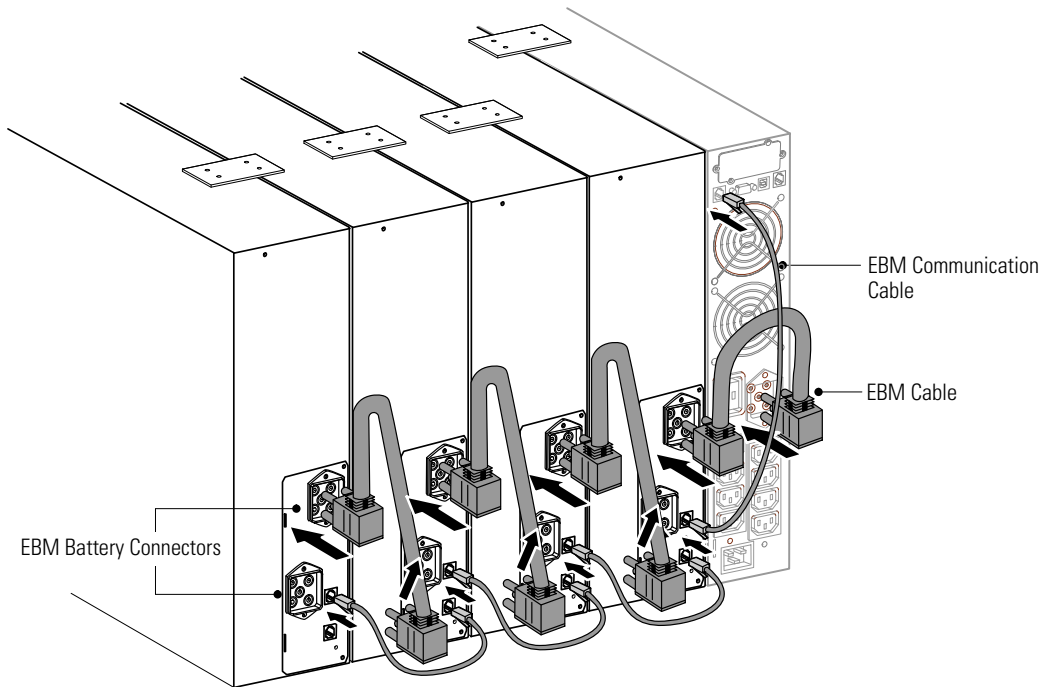

Figure 8. UPS Installation with Four EBMs
2. Plug the EBM cable into the battery connector. Plug the EBM communication cable into the RJ-11 port. See Figure 8.